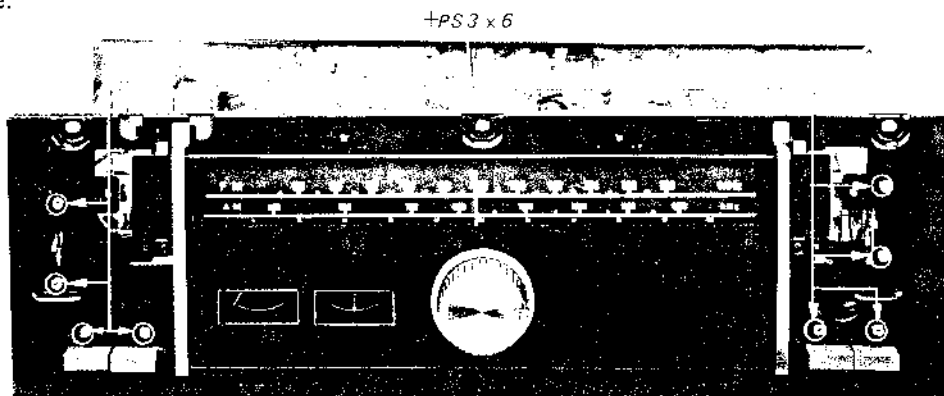

Fig. 2-6 Switch replacement
- Remove the two screws (+PS 3 X 6) securing the switch to the front subchassis. See Fig. 2-6.
- Remove the two screws (+PS 3 X 6) securing the switch mounting circuit board to the subchassis as shown in Fig. 2-6.